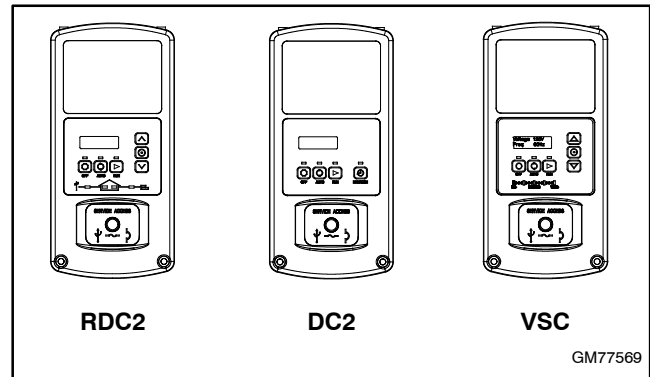
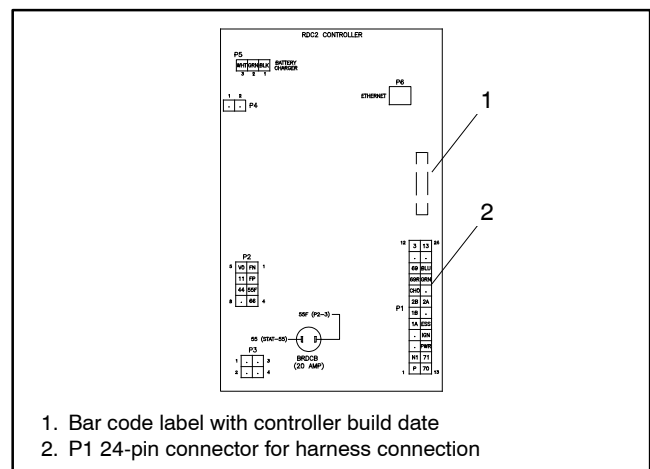
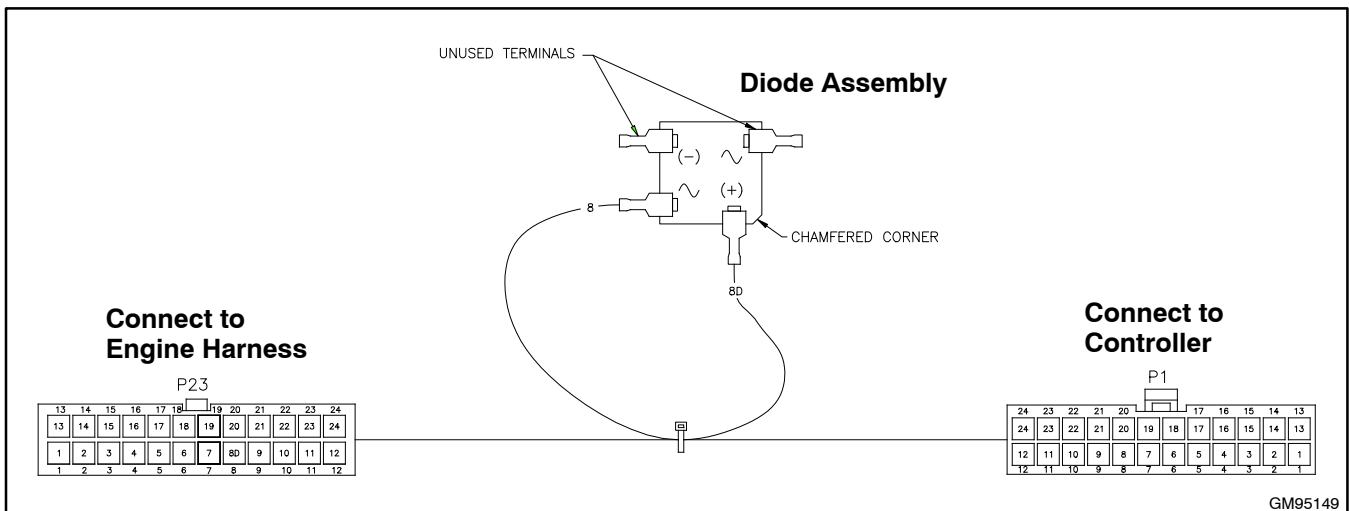
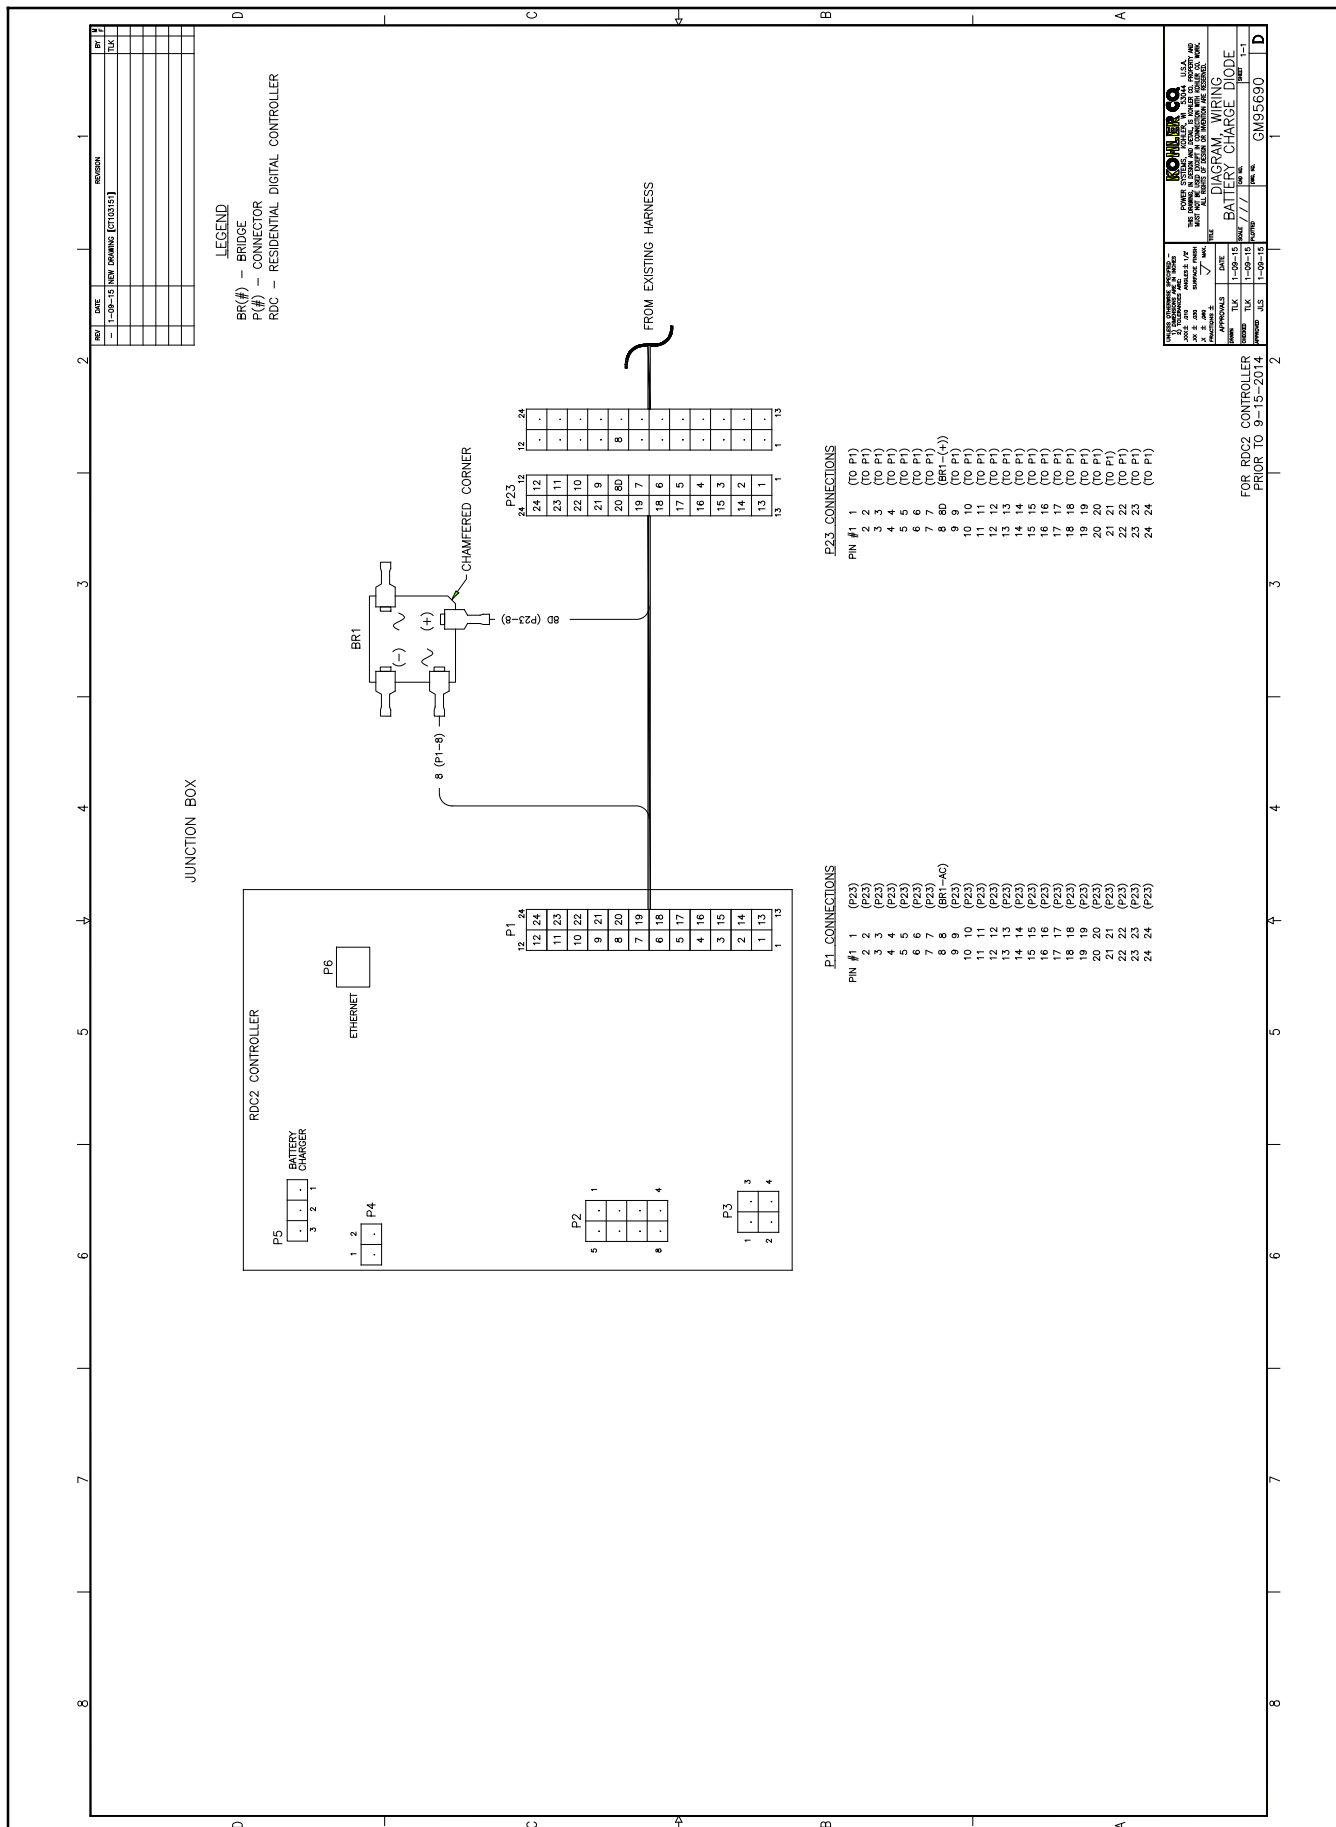

Figure 1 Applicable Controllers (original green-board design only)
Figure 2 Back of Controller
Figure 12 Harness with Diode, GM95149
Figure 13 Diode Harness Wiring Diagram GM95690
Use kit GM95500 on generators equipped with original design (green-board) RDC2 or DC2 controllers built before 9/15/2014. See Figure 1 for applicable controllers. The controller build date is shown on the bar code label located on the back of the controller on the controller's circuit board. See Figure 2 for the location of the label. See Figure 3 to find the date on the label.
See Figure 12 for the diode harness illustration.
- Disconnect the engine harness from the controller at the 24-pin connector. See Figure 2 or Figure 13.
- Connect P1 of diode harness GM95149 to P1 on the controller. See Figure 12 and Figure 13.
- Connect P23 of the diode harness to the 24-pin connector on the engine harness. See Figure 12 and Figure 13.
- Install the controller onto the junction box using the two (2) screws removed in step 5.